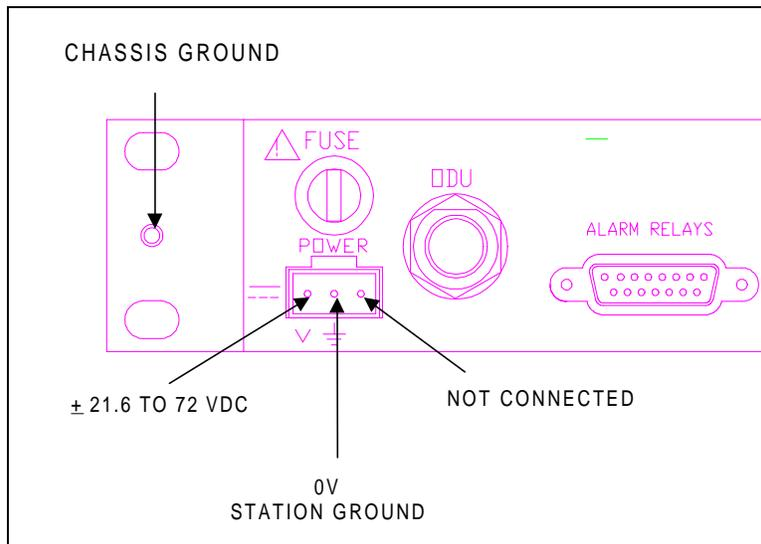

Figure 3-8. IDU Power Connector Detail
- Step 7. The XP4 requires DC power (± 21.6 to 72 Vdc) via a 3-pin connector. Ensure that the plug provided in the installation kit is wired as detailed in Figure 3-8. Recommend use of 14 gauge wire (1.5mm² conductor), ends stripped back by 3mm and secured in 3-pin Weidmuller connector using a small flat-blade screwdriver.